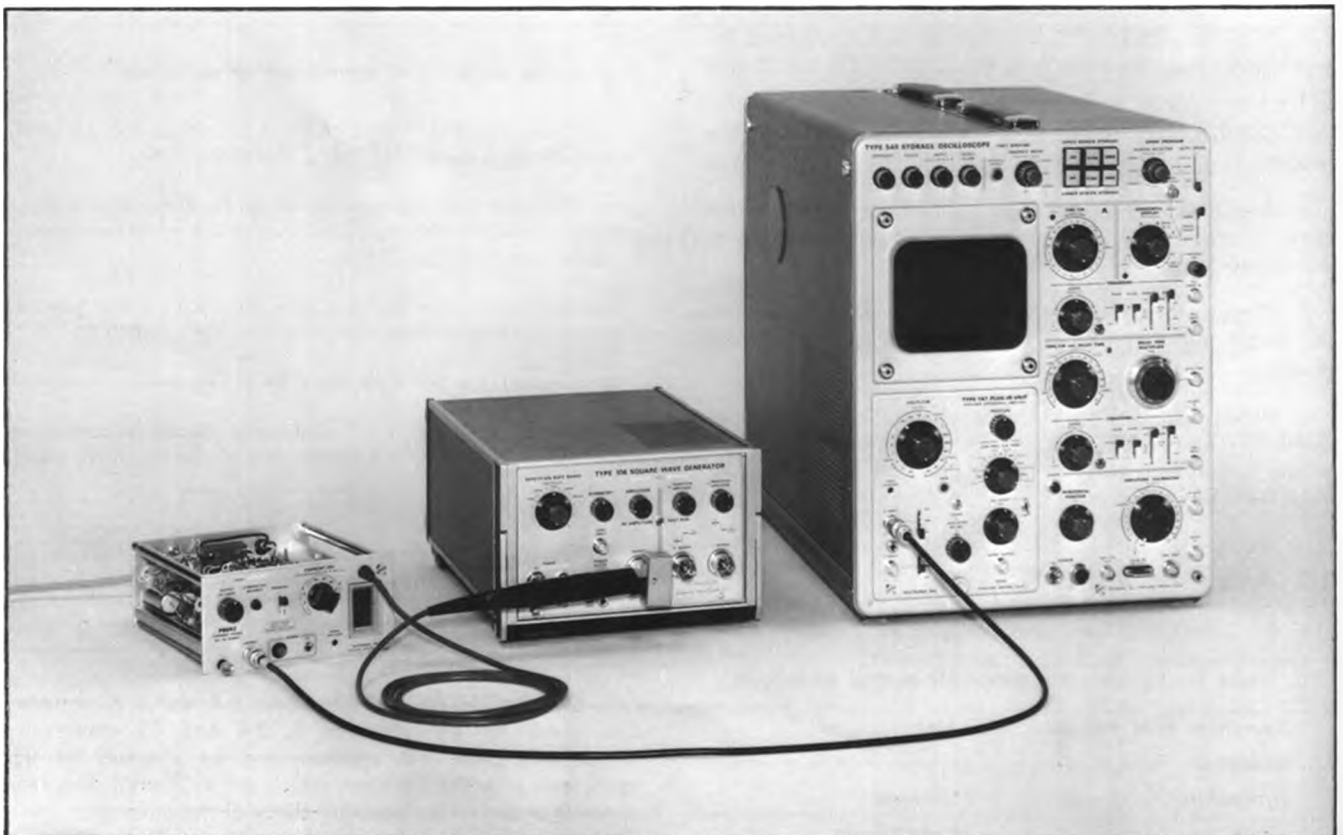

Fig. 6-12. Test setup for steps 10 and 11.
- f. Set CURRENT/DIV to 5 mA and Volts/cm to 50 mV. Degauss the probe and connect to the current loop. See Fig. 6-12.
- e. Connect the test equipment as in Fig. 6-12.
- Switch CURRENT/DIV to 10 mA and remove the two 10× attenuators. Connect current loop and probe as in Fig. 6-12.